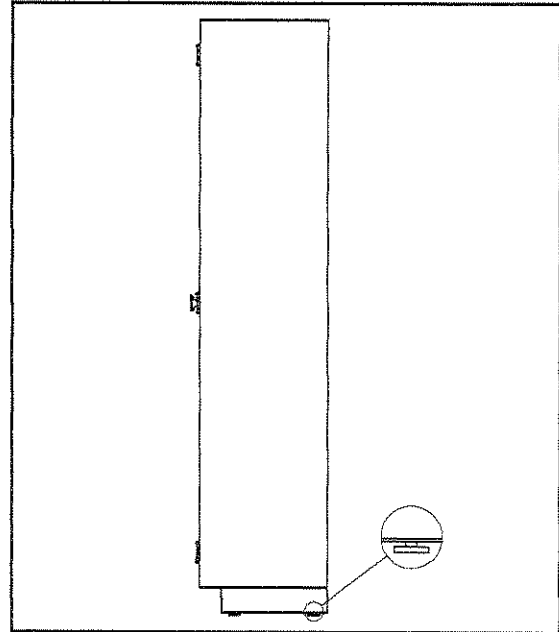

Figure 7
3. Set high cabinets in place. Cabinets are assembled with leveling feet in corners to allow for level and plumb adjustment (see Figure 7). The adjustment of these feet is accessed by removing the metal hole plugs on the inside of the bottom of the cabinet. To adjust, tighten or loosen as necessary using a 5/16" socket wrench.